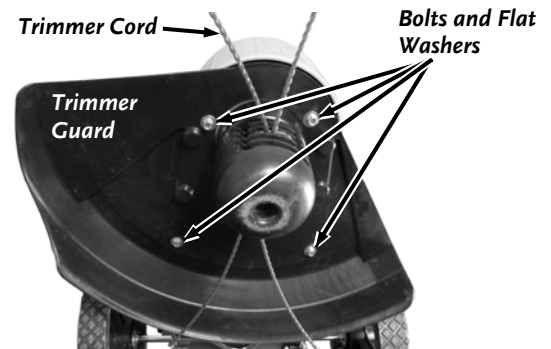

Figure 26
3. Remove the four Trimmer Guard Bolts and Flat Washers with a 3/8" Wrench. Remove the Trimmer Guard (**Figure 26**).
11. Position the Trimmer Guard and secure with the four Bolts and Flat Washers using the 3/8" Wrench (**Figure 26**).